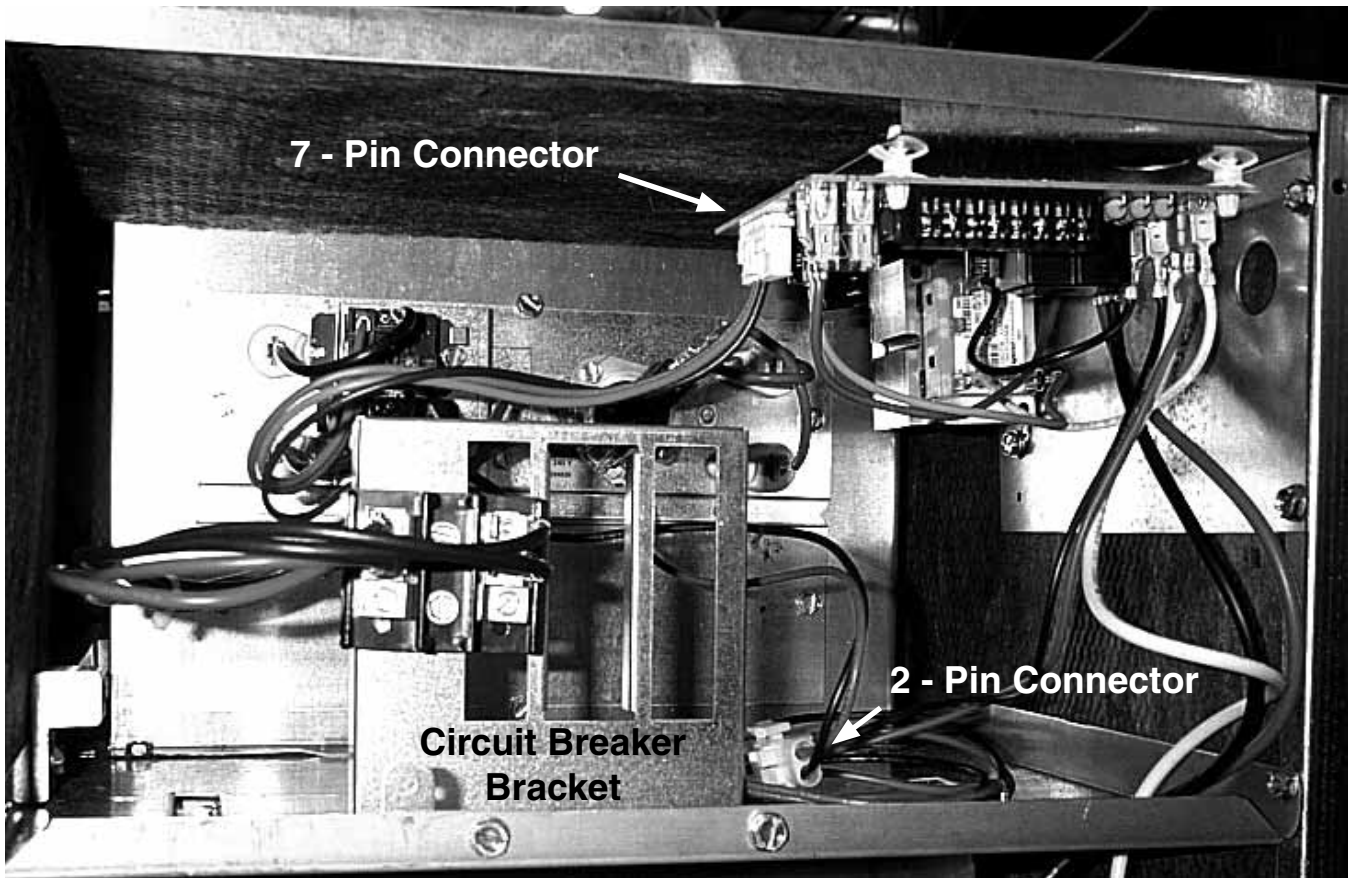
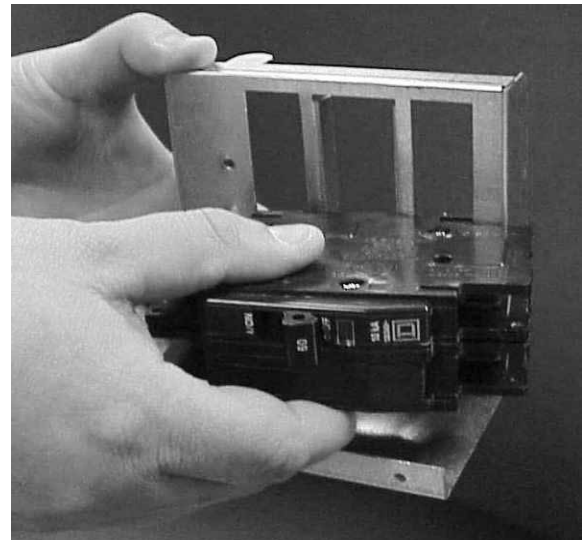

Figure 2. Sample Installation (shown with access door removed)
Figure 3. Installation of Circuit Breakers
8. Install the circuit breaker bracket inside of the air handler. Position the tab on the bottom of the bracket into the slot of the control panel box. See Figure 2 (page 4) for proper placement of bracket
1. Snap the circuit breaker onto the circuit breaker bracket as shown in Figure 3. The circuit breaker must be positioned (side with 1/4" terminals to the right) as shown in the Figure 2.
1. Snap the circuit breakers onto the circuit breaker bracket as shown in Figure 3. The circuit breakers must be positioned (side with 1/4" terminals to the right) as shown in the Figure.
1. Snap the 3-pole circuit breaker onto the circuit breaker bracket as shown in Figure 3. The circuit breaker must be positioned (side with 1/4" terminals to the right) as shown in the Figure.